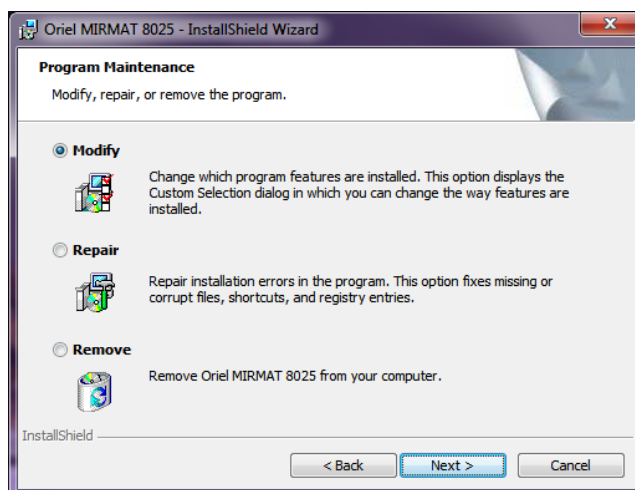

Figure 23: Select Type of MIRMat Installation
18. Select “Modify” and click “Next” per Figure 23.